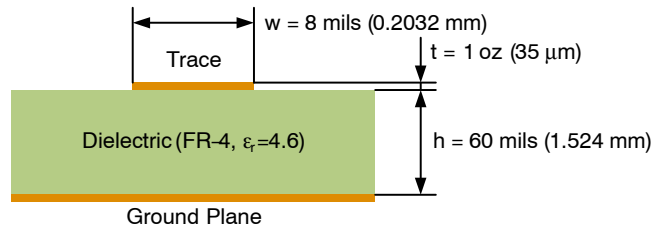
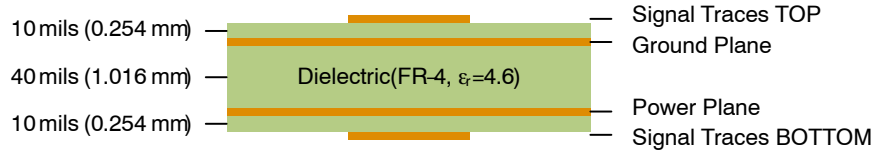

Figure 12. Example of 2-Layer PCB
Figure 13. Example of 4-Layer PCB
A typical PCB configuration is shown in the Figure 12 and Figure 13. An estimated characteristic impedance of the given 8 mils wide TOP layer trace is ca. 130  $\Omega$  at 2-Layer PCB (Figure 12) and ca. 72  $\Omega$  at 4-Layer PCB (Figure 13).
- 4-Layer FR-4 PCB (Figure 13), 8 mils trace with estimated characteristic impedance 72  $\Omega$ .